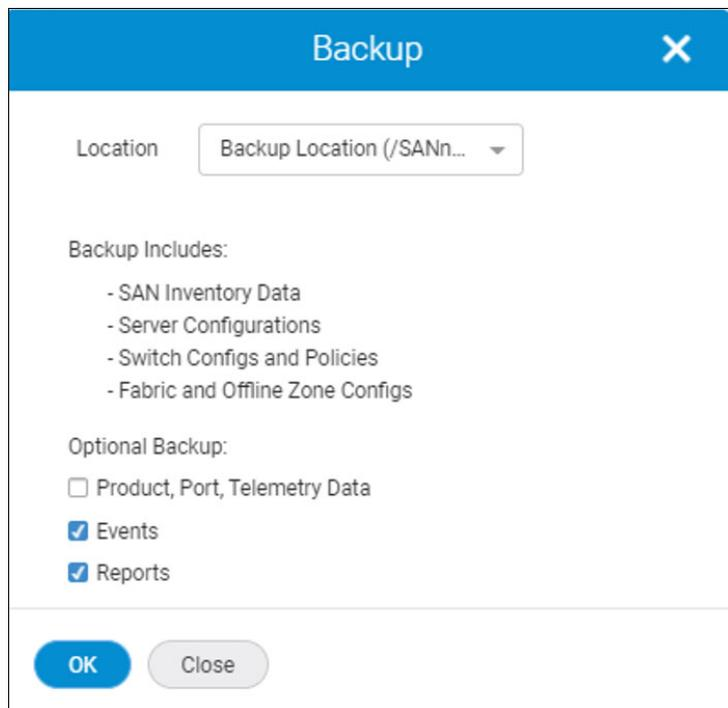

Figure 4-39 On-demand backup
5. Click **OK**, as shown in Figure 4-39.